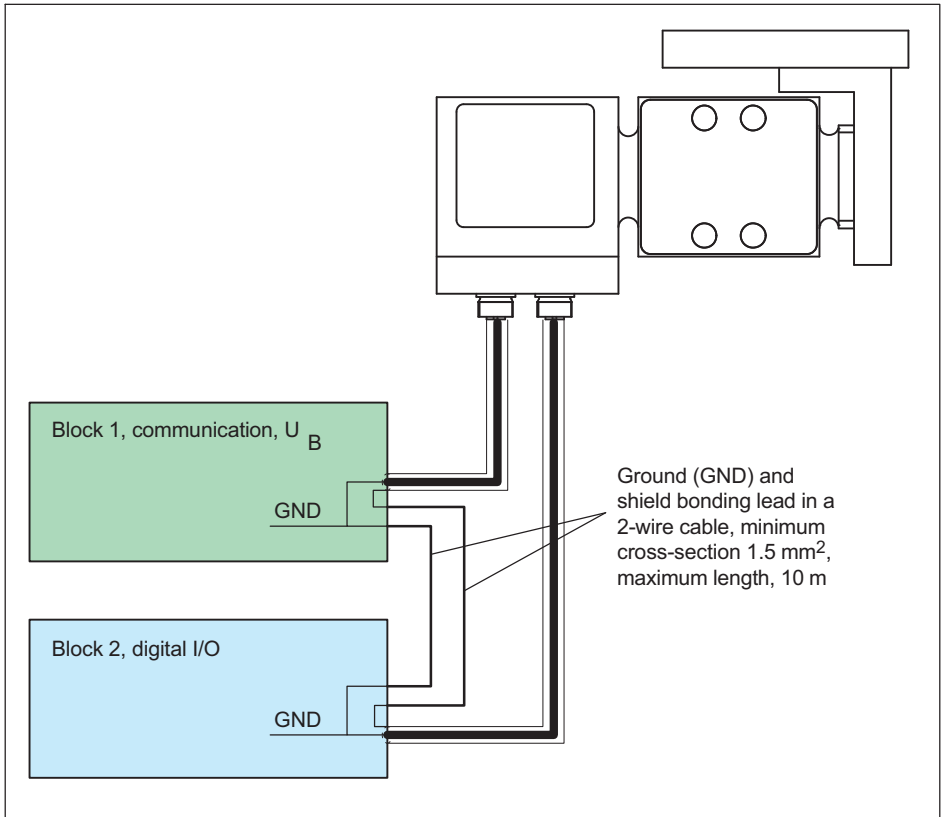

Fig. 7.1 Connecting GND potentials in separate function blocks
1. The arrangement of the function blocks, i.e. the digital part for the switch outputs and the part for supplying with operating voltage and the interface, is physically separate (Fig. 7.1).
In the first case, make sure that the shields of both leads, as well as the GND potential, are each connected with a wire with a minimum cross-section of 1.5 mm^2 . Both multipole and individual leads are suitable for this. However, the individual leads must not take different routes, they must be close together. The total length of a conductor must not exceed 10 m (Fig. 7.1).